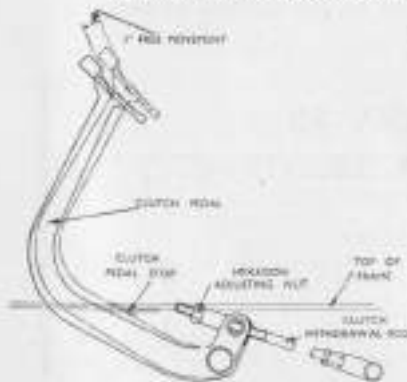

Fig. 24. (Above)—
- (ii) Check clutch pedal clearance. Should have 1" upward lift. Adjust by nut on operating rod at base of pedal (see Figs. 24 and 25). Unscrew to increase upward lift.